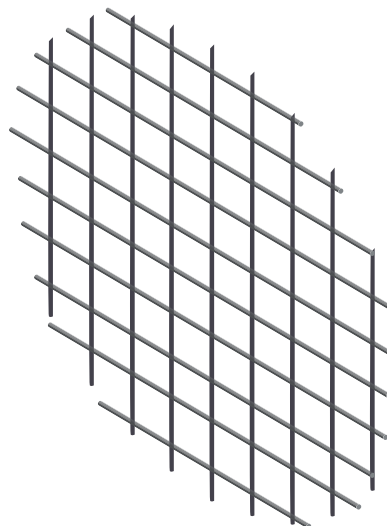

Fig. 15
- Supplied with this heater is a vent termination screen (see Figure 15).
Installed in the vent termination elbow, the vent screen is required to keep foreign objects, rodents and small birds from entering the venting system. This screen has been sized to ensure maximum energy efficiency of the vent system based on the “equivalent length” of the vent piping. (see Figure 15).